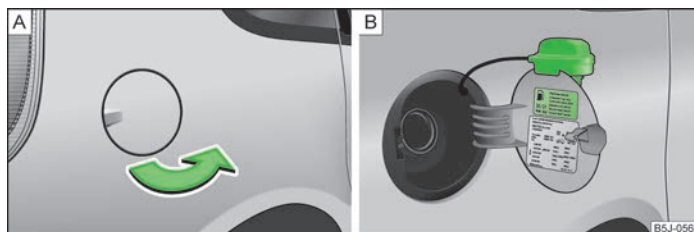

Fig. 112 Right rear side of the vehicle: Fuel filler flap/fuel filler flap with cap unscrewed
The correct type of fuel for your vehicle and the tyre size and inflation pressure are specified on the inside of the fuel filler flap » Fig. 112 on page 134 - [B].
- Open the fuel filler flap with one hand » Fig. 112 - [A].
- Unscrew the filler cap by turning it to the left and place the cap onto the top of the fuel filler flap » Fig. 112 - [B].